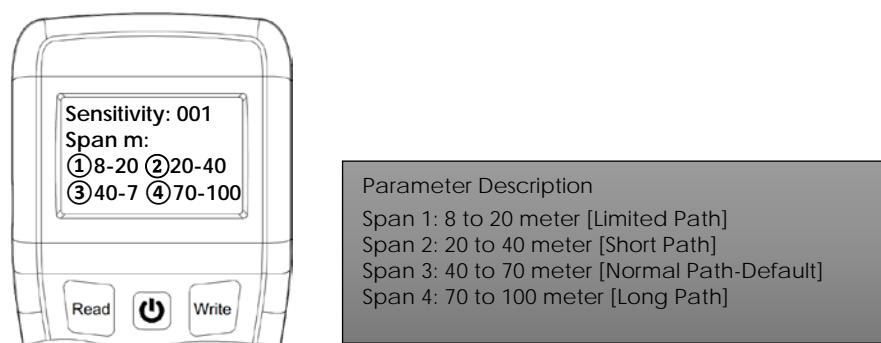

Figure 12
2. Switch on the programmer, then press button “3” then display “Sensitivity and Span (m)”. Then enter then press “0/Page” key to highlight the previous Span setting. Then press value from 1, 2, 3 or 4 correspond to the span value and then press “Write” key. (Figure 12)